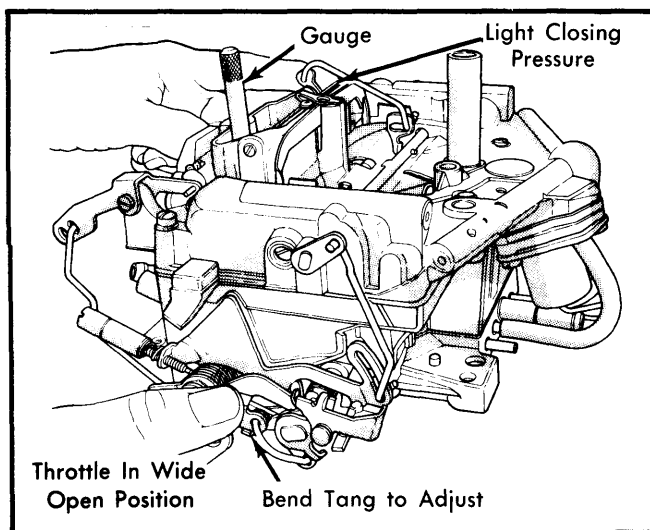

Fig. 11 Adjusting Choke Unloader
1) Open throttle valves wide open. Apply light closing pressure on fast idle cam lever to close choke valve. See Fig. 11.